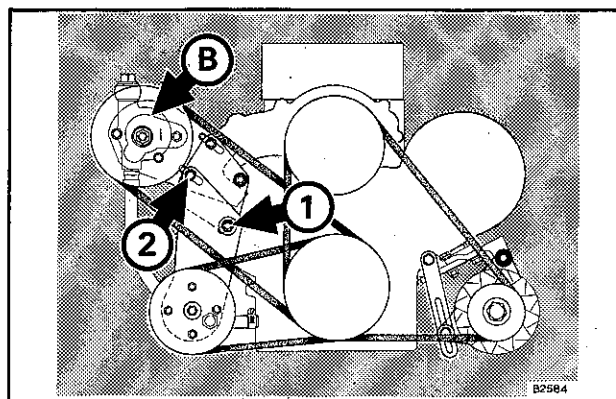

Fig. 4 6.247 engine (Except RB 75)
Slacken bolts (1) and (2) shown in Fig. 4. Note that bolt (2) also secures the exhaustor (B).